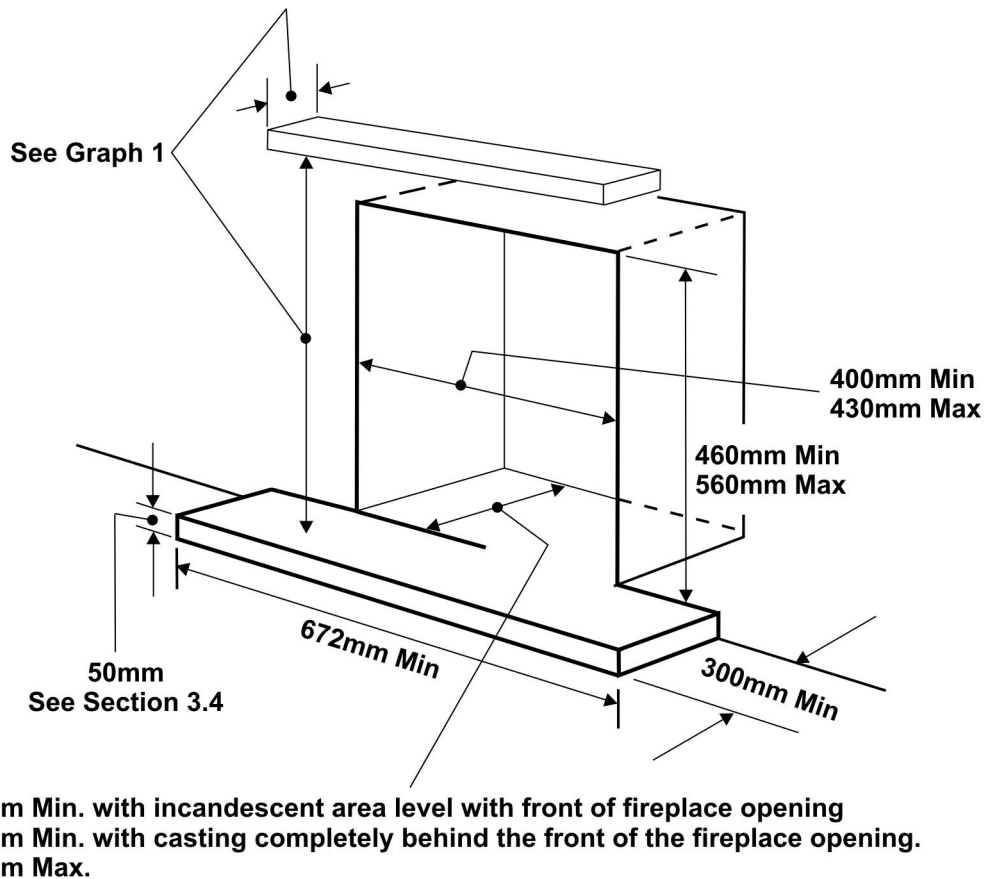

Figure 1. Hearth and fireplace opening.
- To a fireplace complete with surround and hearth as shown in figure 1 and complying with BS1251. The required fireplace, hearth, and clearance dimensions are shown in figure 1.
**3.4** The appliance must be mounted behind a non-combustible hearth (N.B. conglomerate marble hearths are considered as non-combustible). The appliance can be fitted to a minimum class “O” – 100°C surround. The hearth material must be at least 12mm thick. The periphery of the hearth (or fender) should be at least 50mm above floor level to discourage the placing of carpets or rugs over it (See figure 1). The surface of the hearth must be sufficiently flat to enable the bottom of the front surround and the bottom front cover to be aligned horizontally. Any excessive unevenness (uneven tiles, Cotswold stone, etc.) should be rectified.
- It is recommended that a hearth should be installed as in figure 1. If a reduced depth hearth is fitted, the fire must be installed so that the distance from the base of the fireplace opening in the wall to the finished floor level is 77mm minimum. Where there is no floor covering or carpet and the floor is of a type that is likely to be covered in such a way in the future then the distance from the base of the fireplace opening in the wall to the finished floor level should be increased to at least 152mm.